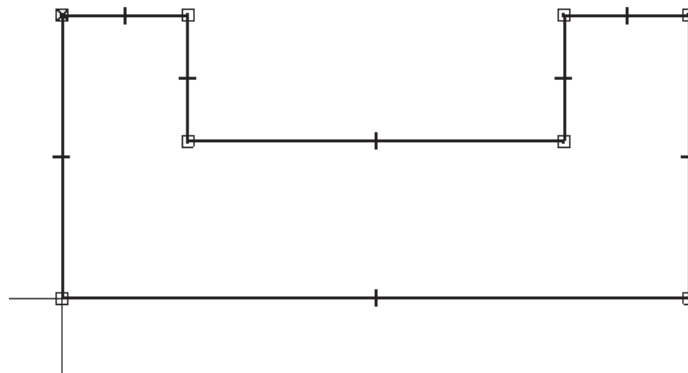

Figure 1-26 Sketch after drawing lines
15. Press the ESC key to exit the **Line** tool. The sketch, after drawing the lines, is shown in Figure 1-26.